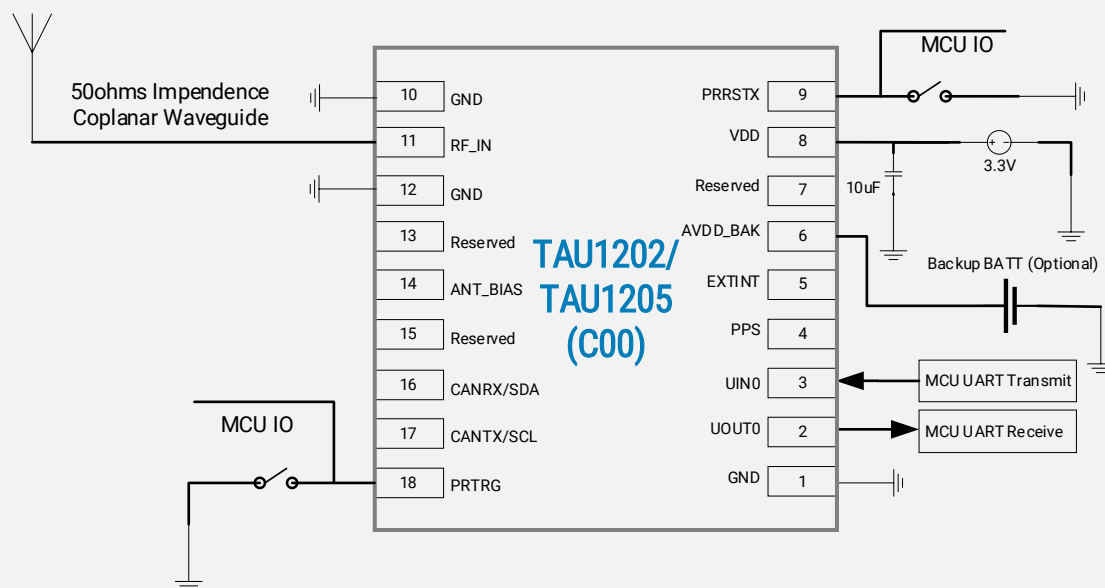

Figure 8 Minimal application diagram of C00 with internal power for ANT
- In C00 design, a bias choke is built-in between ANT_BIAS and RF_IN pin to power the active antenna. (Refer to **Figure 8**)